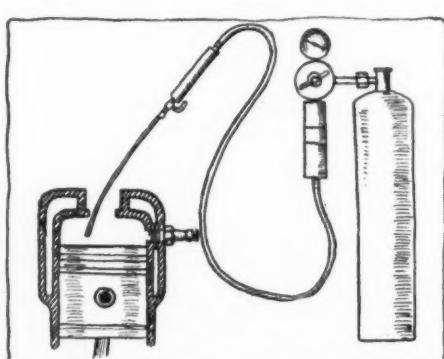

Fig. 9—Oxy-Decarbonizer for burning carbon out of the cylinders. The method of operation is shown
**The Oxy-Decarbonizer**—A new outfit (Fig. 9) for burning the carbon out of cylinders by means of oxygen has been put on the market by the Oxy-Decarbonizer, Boston, Mass. The method of operation is simple, requiring merely the removal of spark-plug or valve cap and the filling of the cylinder with pure oxygen, a lighted taper being then inserted and held in contact with the carbon until it takes fire. Strange though it may seem, the carbon ignites easily because oxygen supports combustion very readily. As long as there is any carbon burning, oxygen is supplied to take the place of what is used up during this process. The oxygen is carried to the cylinder through a small brass tube, which is connected to the oxygen tank of the Decarbonizer by a rubber hose. Gas in the tank is under high pressure, so a reducing valve is located in the line, while a stop cock is used for starting and stopping the flow as needed. A pressure gauge indicates the quantity of gas.